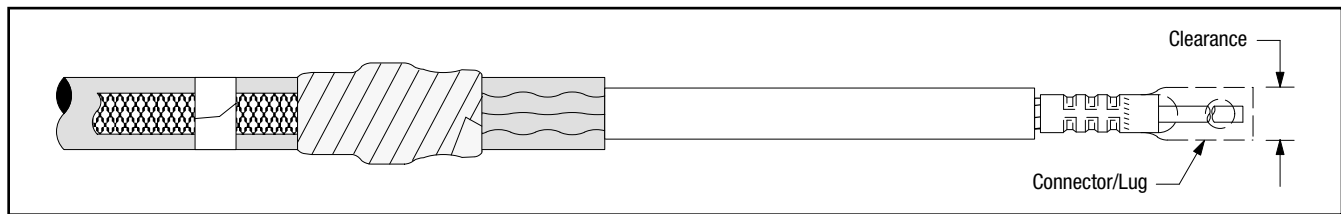

Figure 23
- 14.1 Check to insure the 3M™ Cold Shrink QT-III Silicone Rubber Termination assembly fits over the selected lug or connector. If lug or connector (*Figure 23*) will not fit through the termination core, clean the insulation (*per Step 15.0*) and slide termination on cable before installing lug or connector. **DO NOT REMOVE CORE AT THIS TIME.**